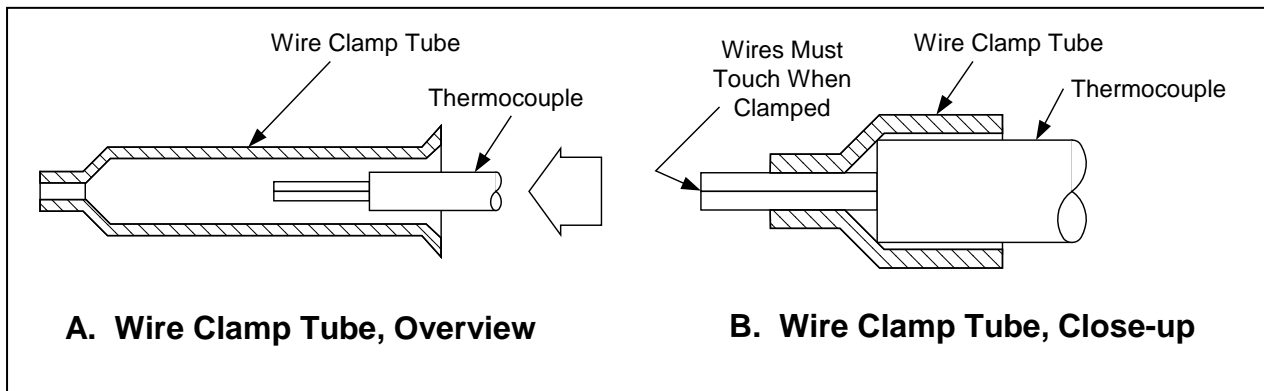

Figure 3-1. Thermocouple wire insertion procedure.
- Grasp the Handpiece in either hand. Slide the black Loading Button back toward the square part of the Handpiece. Using the opposite hand, insert the stripped end of the thermocouple wire into the large open end on the back of the Upper Wire Clamp Jaw. Feed the wire into the large open end on the back of the Upper Wire Clamp Jaw. Feed the wire into the tube until it stops. If the insulated wire slides through the tube without stopping, clamp the BARE wire so that it protrudes a minimum of 0.135 inches (3.43 mm) from the end of the Wire Clamp Jaw. See figure 3-1.